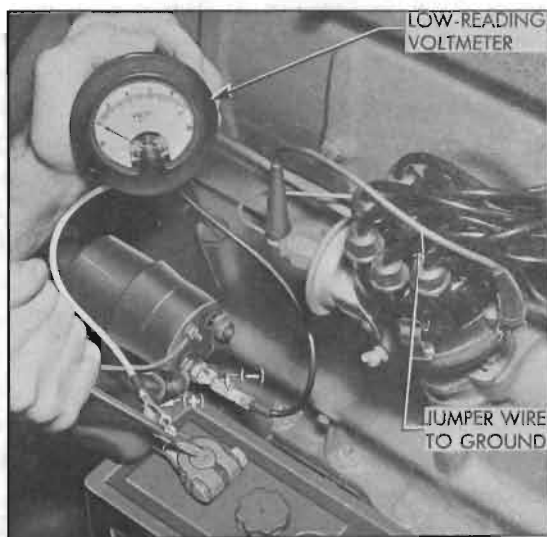

Figure 10-8—Testing Battery Cables and Connections with Voltmeter
2. Connect negative (−) lead of voltmeter to the battery terminal stud on cranking motor solenoid switch. Attach a prod to positive (+) lead of voltmeter and apply the prod to center of battery positive (+) post. See figure 10-8.